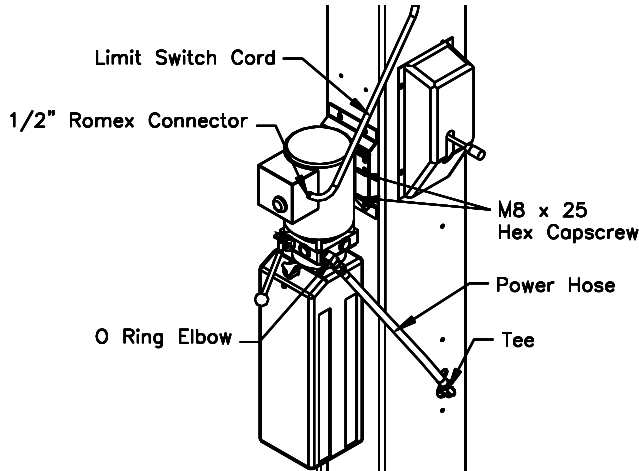

Fig 14 – Power Unit Mounting
- 30) Mount Power Unit to power column as shown in **Fig 14**. Using the (4) M8 x 25 Hex Head Capscrews provided.